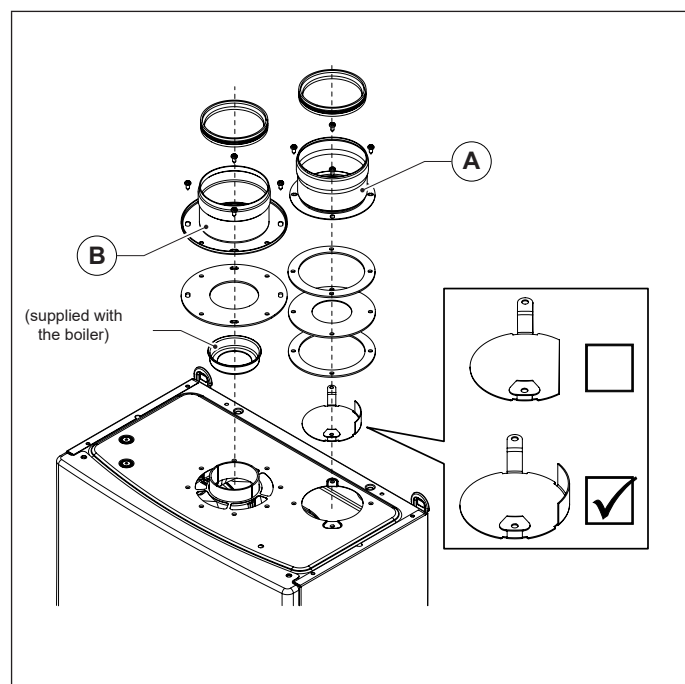

Fig. 14 OSDOPPIA13
- Install the specific air deflector (see Fig. 14 0SDOPPIA13).
Use the diaphragms supplied with the boiler (see Fig. 14 0SDOPPIA13).